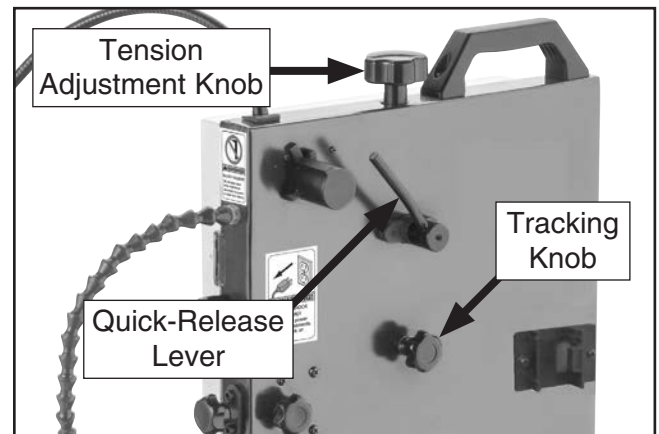

Figure 20. Blade tension and tracking controls.
3. Move quick-release lever all the way clockwise (as viewed from the rear of the machine) to apply tension to blade (see **Figure 20**).
7. Spin upper wheel with one hand and slowly adjust tracking knob (see **Figure 20**) with other hand until blade consistently tracks in center of wheel.